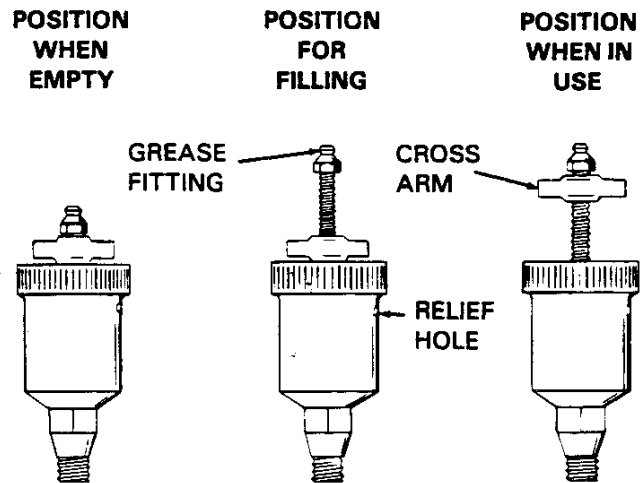

Figure 5. Automatic Lubricating Grease Cup
Fill the grease cup (13) through the grease fitting with No. 2 lithium base grease until grease escapes from the relief hole. Turn the grease cup arm counterclockwise until it is at the top of the stem; this will release the spring to apply grease to the seal (see Figure 5).